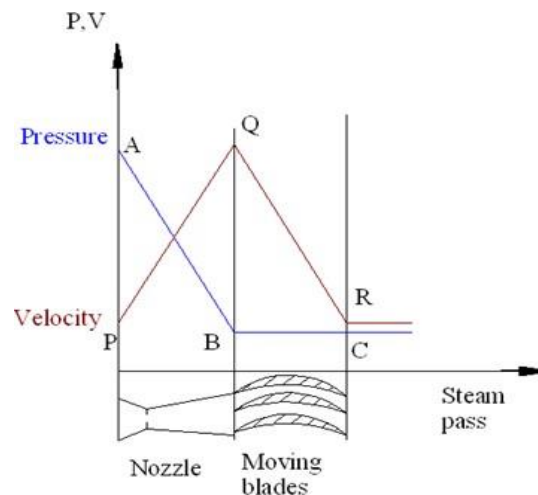

Fig. 4.1 Impulse turbine
**4.2.1 Impulse Steam Turbine:** Impulse or impetus means sudden tendency of action without reflexes. A single-stage impulse turbine consists of a set of nozzles and moving blades as shown in figure 4.1. High pressure steam at boiler pressure enters the nozzle and expands to low condenser pressure in the nozzle. Thus, the pressure energy is converted into kinetic energy increasing the velocity of steam. The high velocity steam is then directed on a series of blades where the kinetic energy is absorbed and converted into an impulse force by changing the direction of flow of steam which gives rise to a change in momentum and therefore to a force. This causes the motion of blades. The velocity of steam decreases as it flows over the blades but the pressure remains constant, i.e. the pressure at the outlet side of the blade is equal to that at the inlet side. Such a turbine is termed as impulse turbine. Examples: De-Laval, Curtis, Moore, Zoelly, Rateau etc.